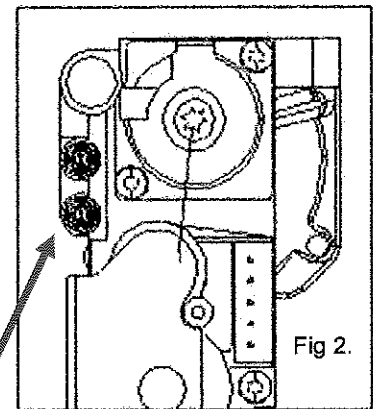

Fig 2.
- Check gas pressure at gas valve inlet pressure tap. SEE Fig 2. Set gas pressure to proper level at the regulator (Refer to section 2.1 Technical Data). Gas pressure adjustments must be performed while the appliance is in "Flue Test Function" mode (maximum firing rate). Do NOT make any adjustments to the gas valve itself.